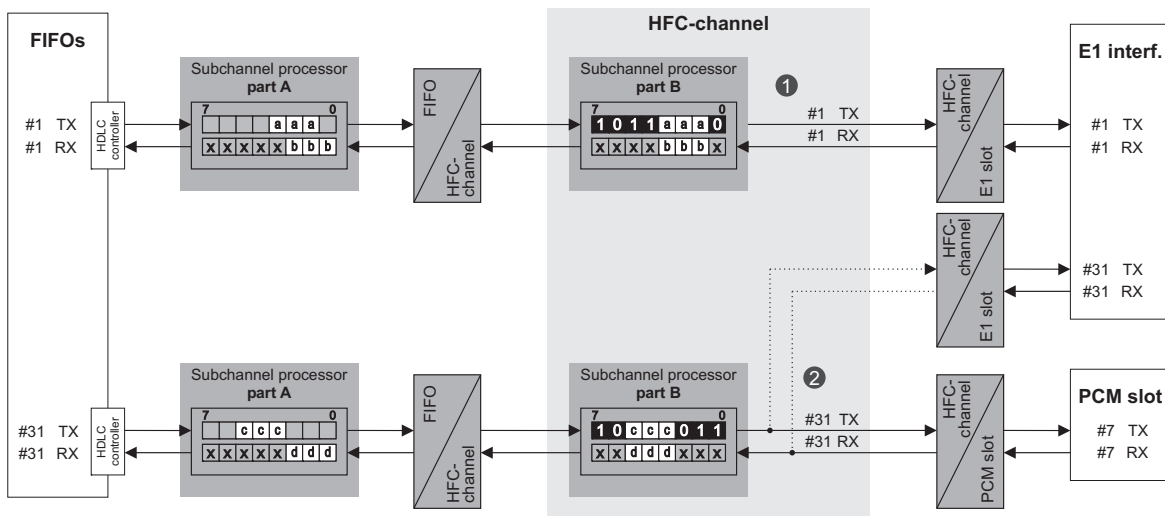

Figure 3.18: SM example with subchannel processor
The subchannel processing example in Figure 3.18 shows two bidirectional configurations (1 FIFO-to-E1 and 2 FIFO-to-PCM) in *Simple Mode*.
Table 3.5: Subchannel processing according to Figure 3.18 (SM ① TX, transparent mode)
Table 3.6: Subchannel processing according to Figure 3.18 (SM ① RX, transparent mode)
Table 3.7: Subchannel processing according to Figure 3.18 (SM ② TX, HDLC mode)